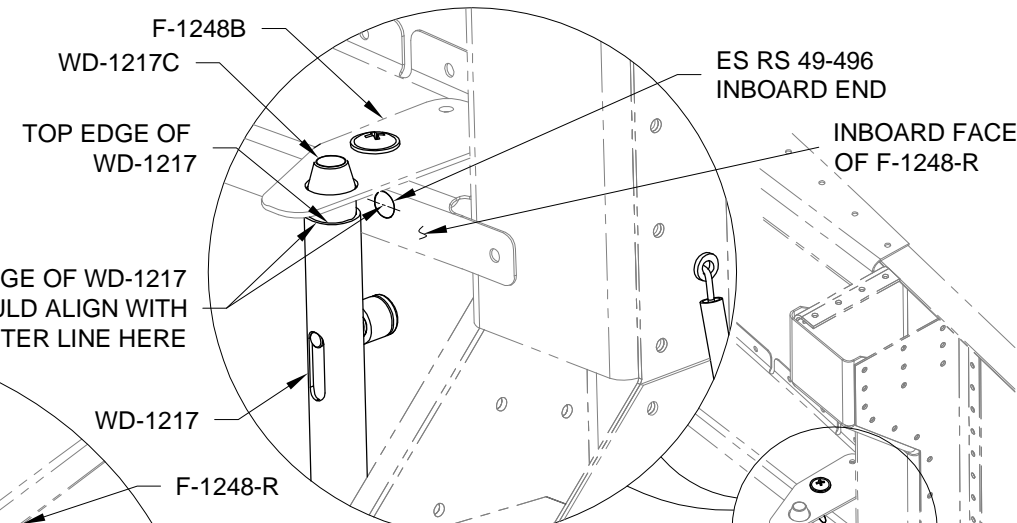
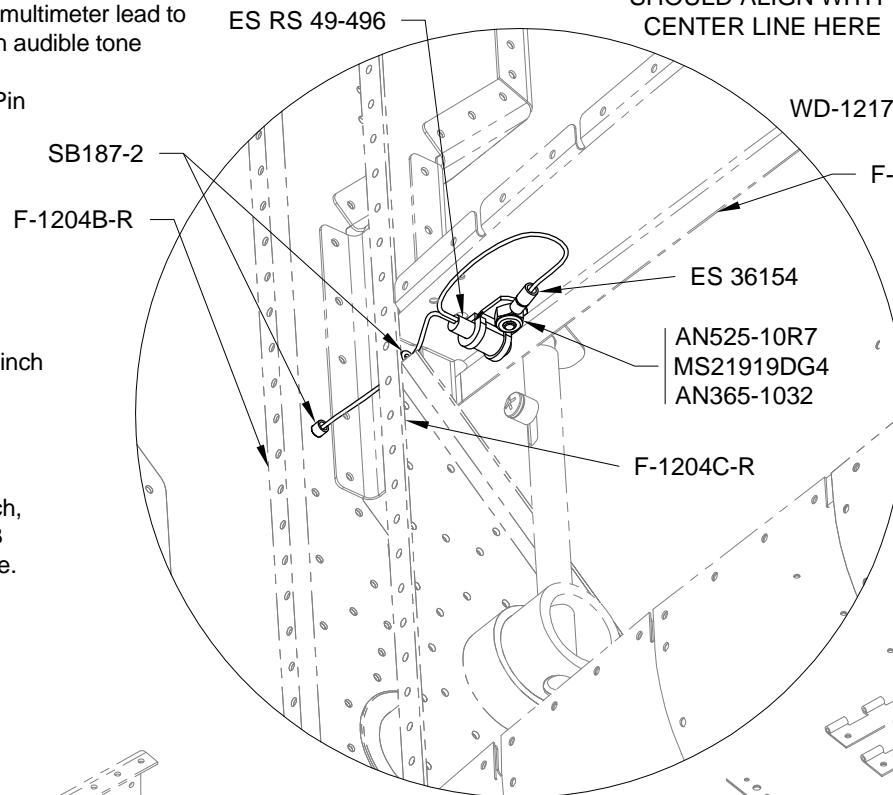
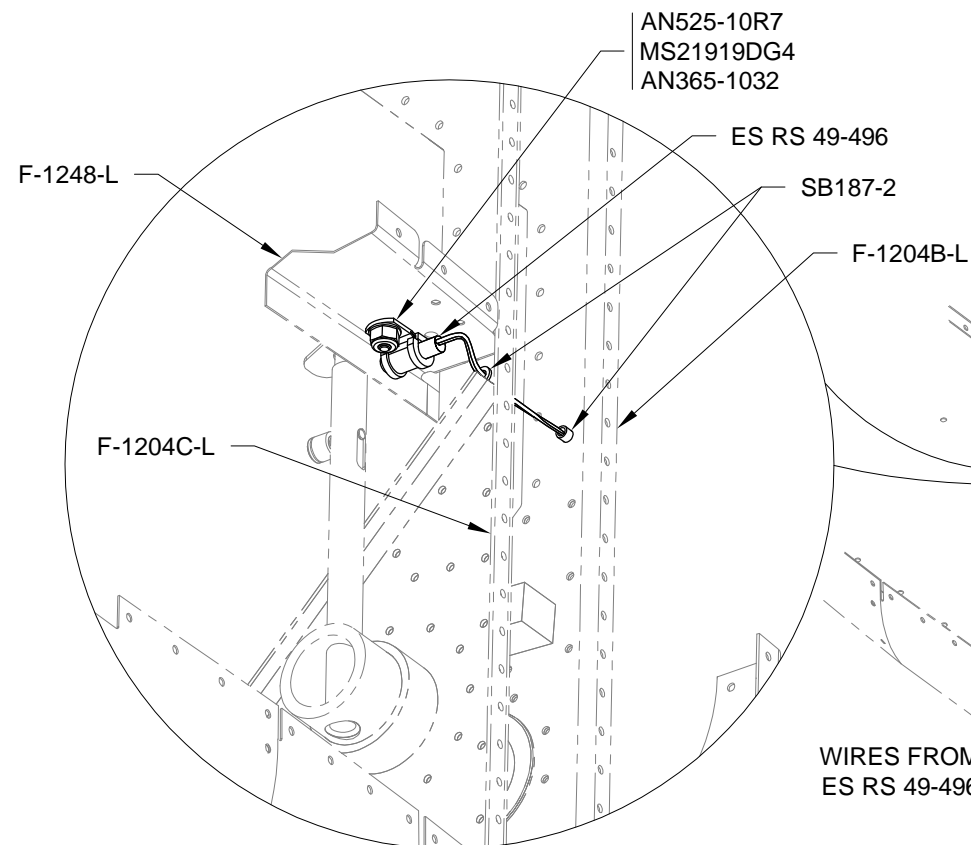
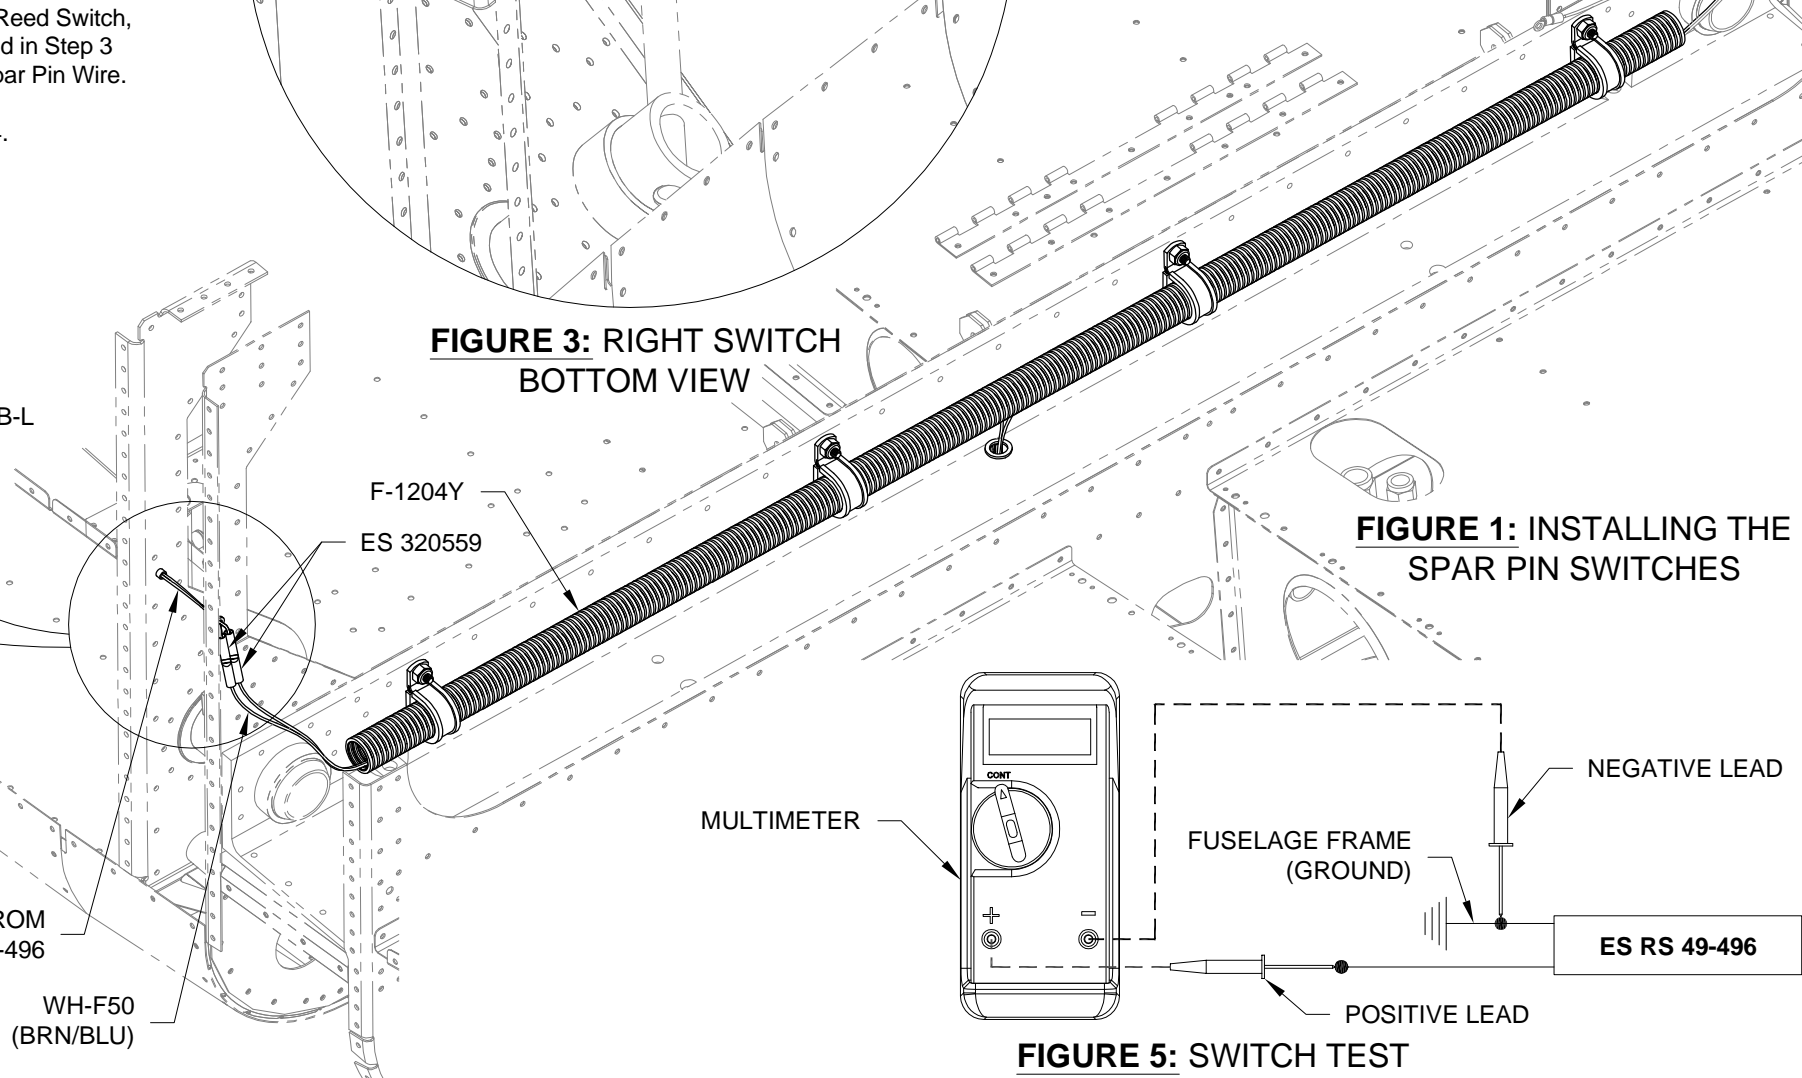

FIGURE 4: SWITCH ADJUSTMENT
FIGURE 3: RIGHT SWITCH BOTTOM VIEW
FIGURE 2: LEFT SWITCH BOTTOM VIEW
FIGURE 1: INSTALLING THE SPAR PIN SWITCHES
Step 1: Install snap bushings in the F-1204C-L & -R Fwd Bulkhead Sides and F-1204B-L & -R Aft Bulkhead Sides as shown in Figure 2 and Figure 3.
Step 2: Choose one of the two ES RS 49-496 Reed Switches. Trim one of the two wires back to 4 1/2 inches in length. Strip the ends of both wires coming from each switch. To the 4 1/2 inch long wire crimp on a ring terminal as called out in Figure 3.
Step 3: Using the hardware called out in Figure 2 and Figure 3 attach the ES RS 49-496 Reed Switches to the F-1248-L & -R Arm Rests (attach the ring terminal from Step 2 at the same time). Align the inboard end of the switch with the inboard face of the armrest. See Figure 4. Route the remaining wire on the right side of the aircraft and both wires on the left side of the aircraft through the snap bushings installed in Step 1. Crimp on butt splices to the switch wires as shown in Figure 1.
It may be necessary to trim the WD-1217 tube. When installed, the top of the tube should be approximately centered on the reed switch as shown in Figure 4. Remove the stopper from the fuselage pin and trim 1/32 of an inch from the top of the tube. Reassemble the fuselage pin with the stopper and test. Repeat as required. Up to, but not exceeding, 1/8 of an inch may be removed.